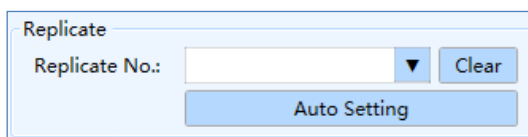

Figure D-6.5. Sample Setting Interface - Replicate
- **Replicate**: according to experiment requirements, user can classify the same samples into one replicate group in the **Replicate** group setting box, as shown in figure D-6.5.